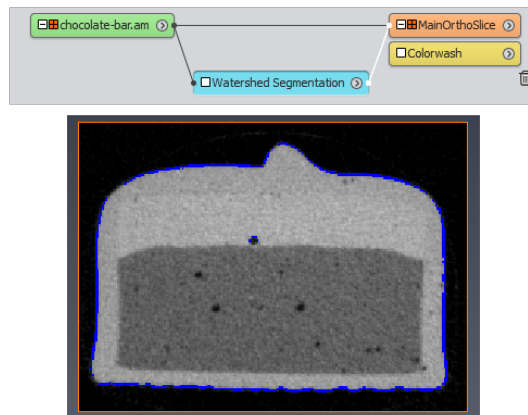

Figure 6.73: The *Watershed Segmentation* wizard at step 3.
- Then select again the *Watershed Segmentation* module (see Figure 6.73).